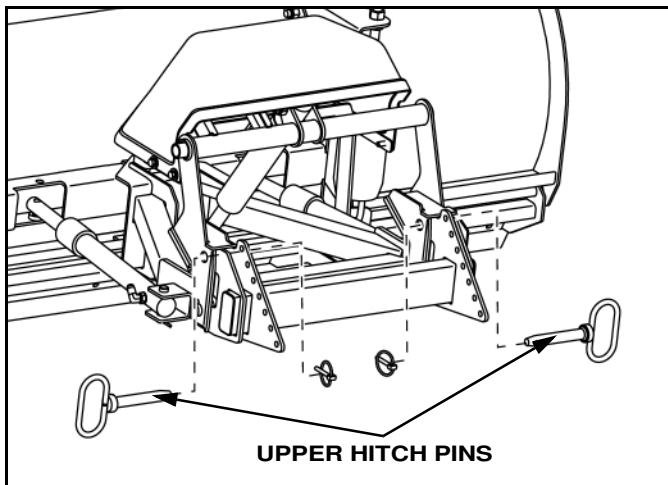

Figure 1-13
3. Remove upper hitch pins. (See Figure 1-13).